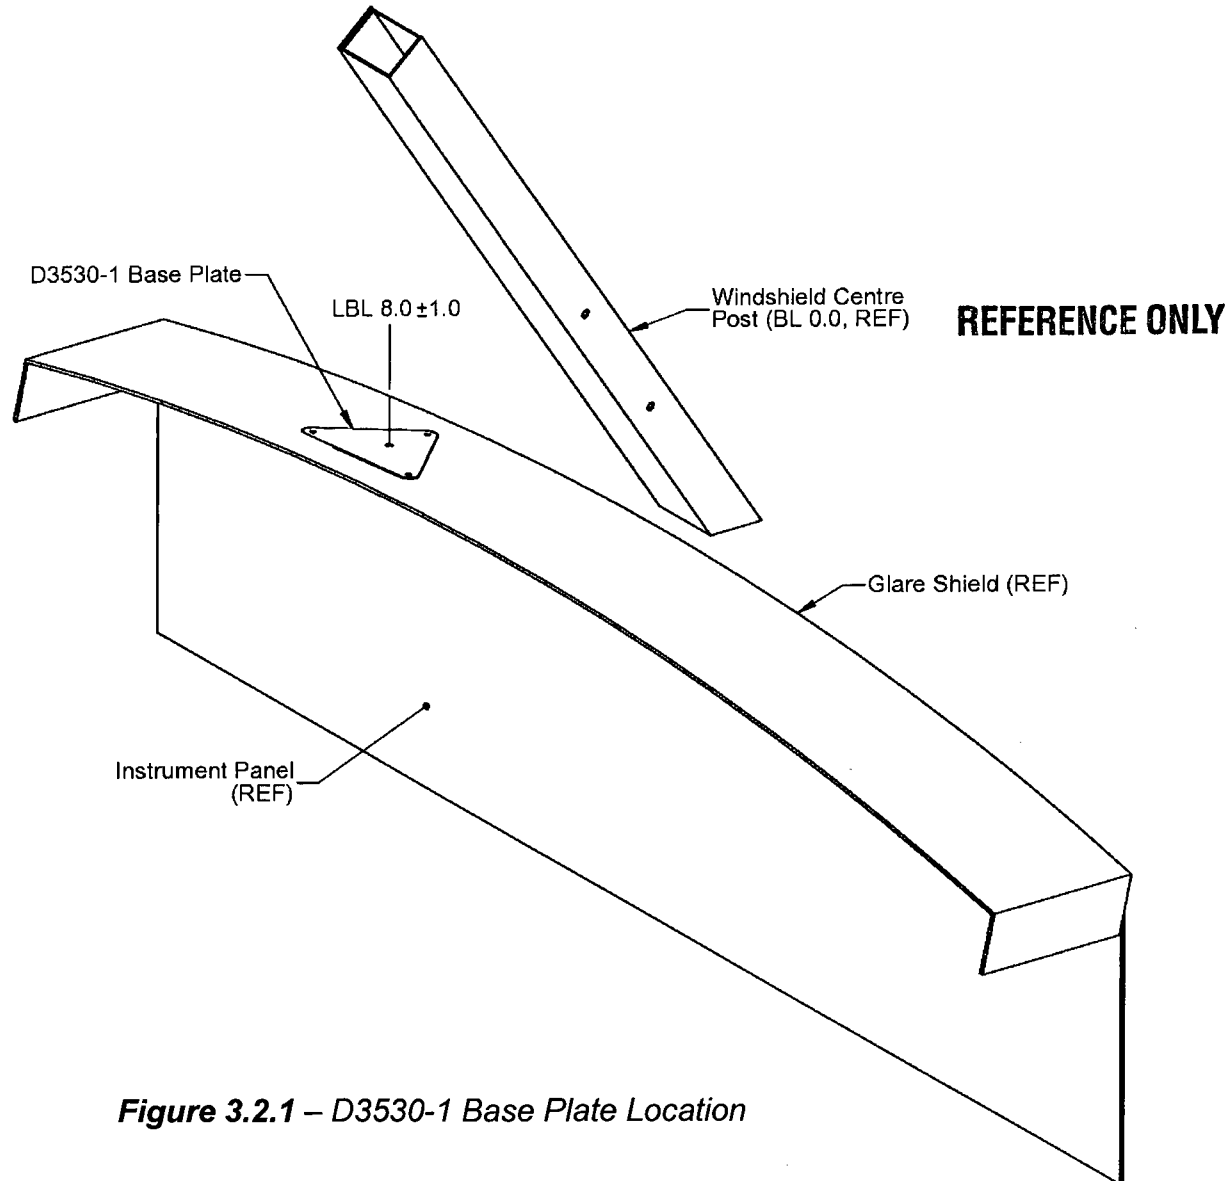

Figure 3.2.1 – D3530-1 Base Plate Location
- 3.2.1 Locate the D3530-1 Base Plate on top of the glare shield of the helicopter instrument panel as shown in **Figure 3.2.1** so that the centre hole of the D3530-1 Base Plate is at LBL 8.0 +/-1.0. Ensure that the base plate lies flat on the glare shield.